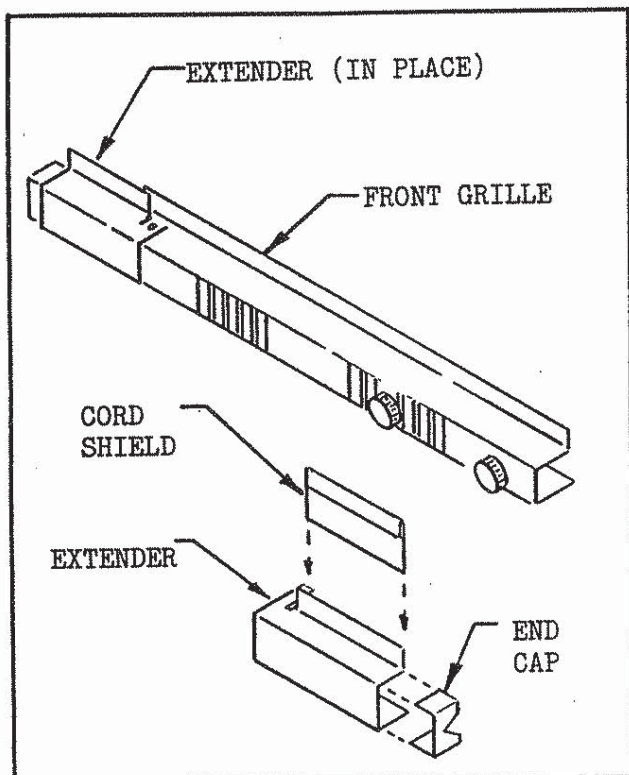

FIGURE 2
D. Remove the extender bars and cut them so the total front grille width is the same as the glass enclosure. Cut the cord shield to the desired length and slide it on the extender bar where the cord is introduced (this protects the cord from heat). Then place the end caps on the ends of the extender bars with the notched cap on the cord side. See Figure 2.